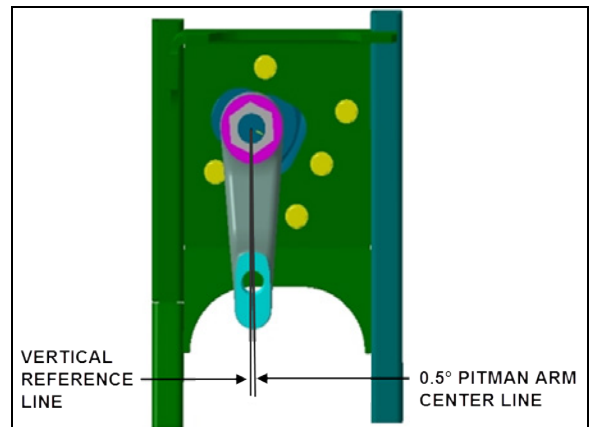

FIGURE 23: IFS PITMAN ARM ALIGNMENT 14056
4. Check that the angular relationship of the pitman arm to the steering gear is as shown in Figure 23.